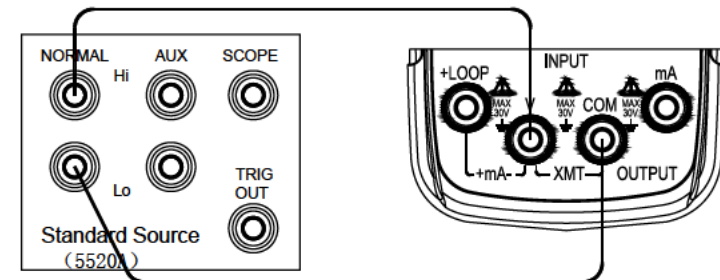

Figure 10-3
- 2) Connect to the Instrument as shown in Figure 10-3;